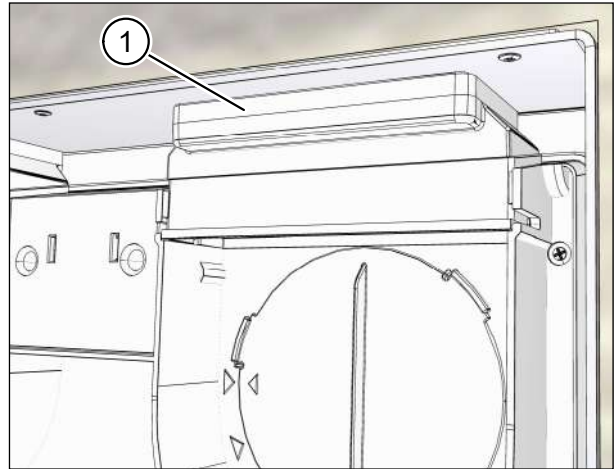

Fig. 41: Checking that the adapters are seated correctly
- ▶ Check that the adapters are seated correctly (item 1 in Fig. 41). They must line up with the extract air and supply air ducts of the installation kit.